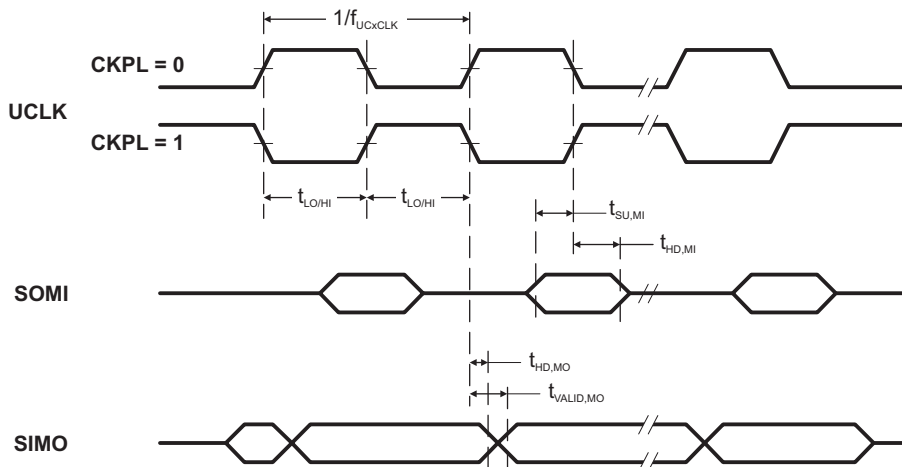
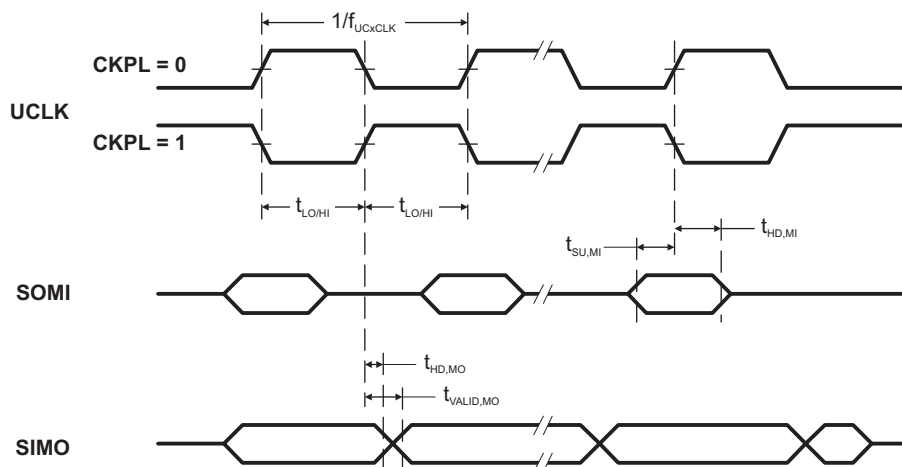

Figure 5-11. SPI Master Mode, CKPH = 0
Figure 5-12. SPI Master Mode, CKPH = 1
(see Note ⁽¹⁾, Figure 5-11 and Figure 5-12)
- (1) f_{UCXCLK} = 1/2t_{LO/HI} with t_{LO/HI} ≥ max(t_{VALID,MO}(USCI) + t_{SU,SI}(Slave), t_{SU,MI}(USCI) + t_{VALID,SO}(Slave)). For the slave parameters t_{SU,SI}(Slave) and t_{VALID,SO}(Slave), see the SPI parameters of the attached slave.
- (2) Specifies the time to drive the next valid data to the SIMO output after the output changing UCLK clock edge. See the timing diagrams in Figure 5-11 and Figure 5-12.
- (3) Specifies how long data on the SIMO output is valid after the output changing UCLK clock edge. Negative values indicate that the data on the SIMO output can become invalid before the output changing clock edge observed on UCLK. See the timing diagrams in Figure 5-11 and Figure 5-12.
- (2) Specifies the time to drive the next valid data to the SOMI output after the output changing UCLK clock edge. See the timing diagrams in Figure 5-11 and Figure 5-12.
- (3) Specifies how long data on the SOMI output is valid after the output changing UCLK clock edge. See the timing diagrams in Figure 5-11 and Figure 5-12.